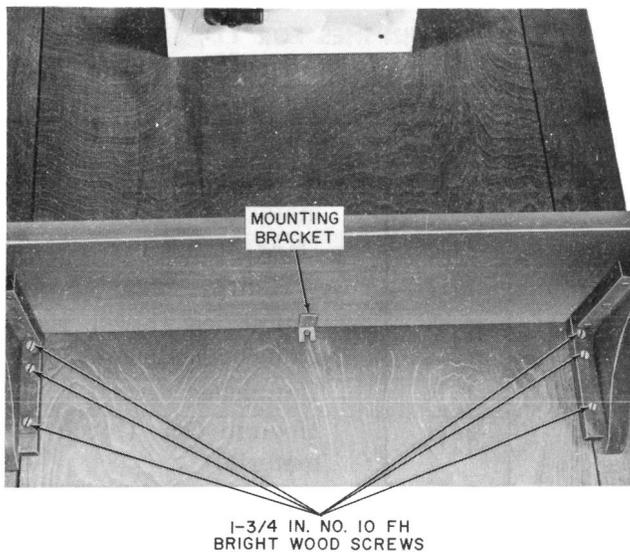

Fig. 2 — Bottom View of 11-Type Shelf Installation
3.03 A typical installation is shown in Fig. 2 and 3. Install as follows: